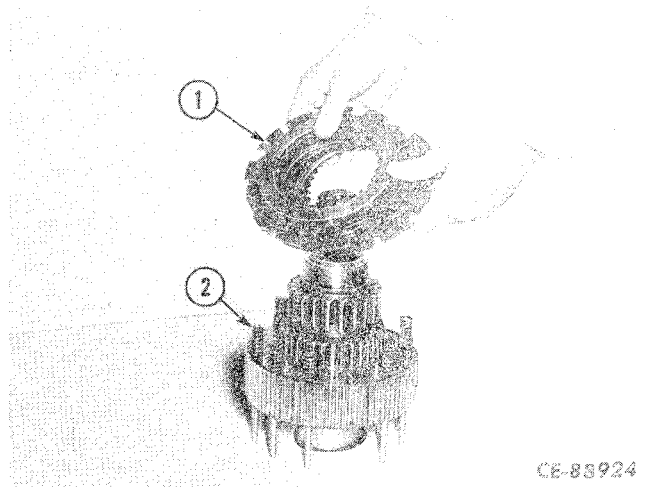

Figure 4-115
Remove the discs (1, Fig. 4-115) and springs (2).